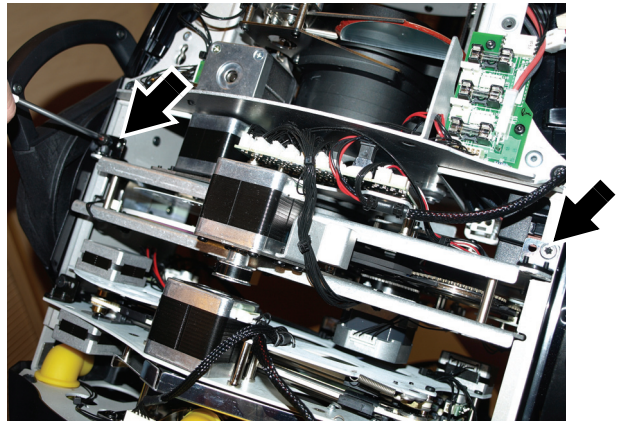

**Figure 14: Head air filter alignment**
7. Remove the old air filter element from the filter housing and put the new element into position with the ribs in the element running from top to bottom (in the same direction as the louvers in the filter housing cover) as shown in Figure 14.